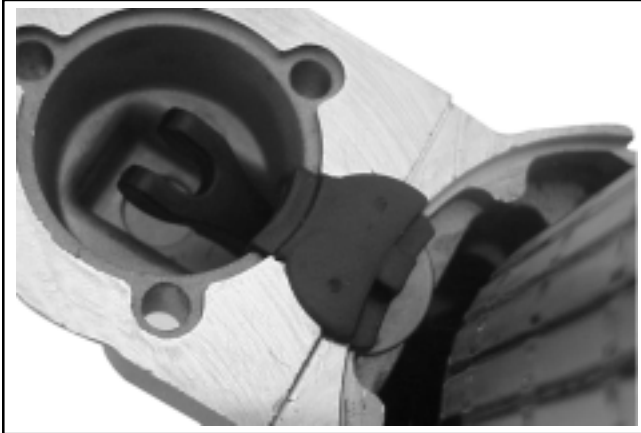

Figure 8-57. Installing Backup Washer and Grommet.
7. Install the backup washer, followed by the rubber grommet, into the matching recess of the drive end cap. The molded recesses in the grommet should be "out", matching and aligned with those in the end cap. See Figure 8-57.